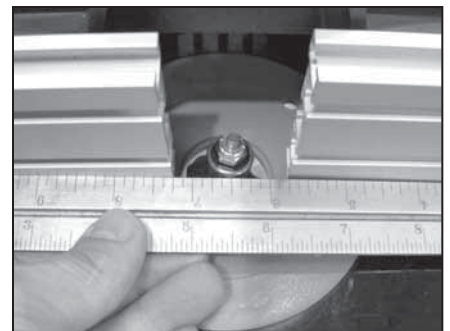

Figure 21
5. Adjust the fence as close as possible to the bearing without allowing the bit to make contact with the aluminum face. Expose just enough of the bearing to allow the bearing to control the depth of cut. This would be the maximum cut. It may be best to make several smaller passes before making the final cut at the maximum depth. See Figure 21.